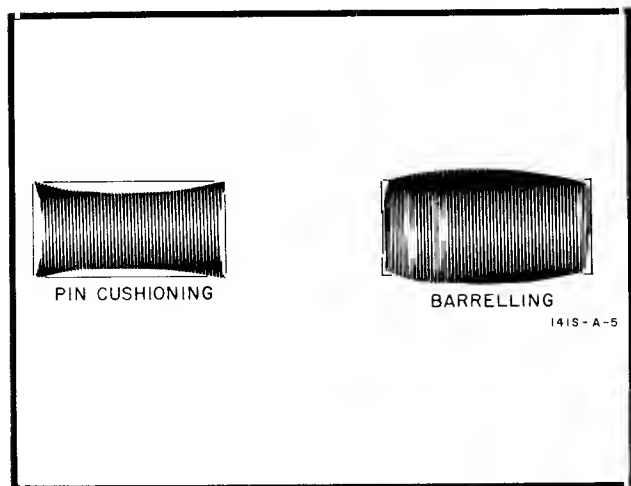

Figure 5-1. Pincushioning and Barreling
- h. Check the displayed pattern for excessive pin-cushioning or barreling as shown in Figure 5-1. If either effect is present, adjust R643 to obtain a rectangular pattern with straight vertical and horizontal edges.
d. Check the displayed pattern for excessive pin-cushioning or barreling as shown in Figure 5-1. If either effect is present, adjust R643 to obtain a rectangular pattern with straight vertical and horizontal edges.